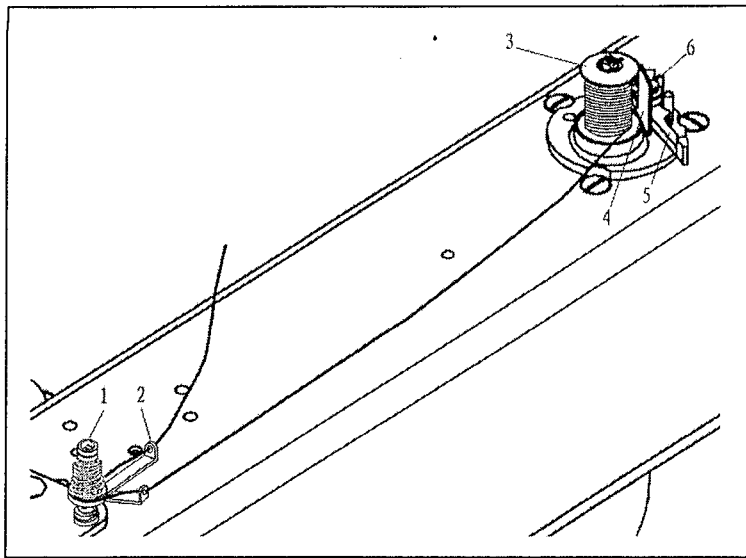

Fig.3
5. WINDING OF BOBBIN THREAD (Fig.3)
- (1) Push the bobbin 3 on the bobbin winder shaft as far as it will go.
- (2) Bring the thread forward toward the bobbin and wind from below in clockwise direction several times around the bobbin.
- (3) Push the lever 5 toward other side so that the driving wheel and driven wheel will engage and then start the machine.
- (4) The driven wheel will automatically be free from the driving wheel and stop after the bobbin is filled with thread.
6. ADJUSTMENT OF THE BOBBIN WINDER (Fig.3)